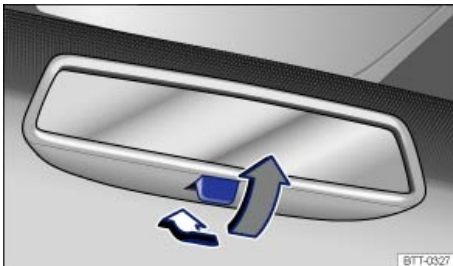

Fig. 88 Manually adjustable inside mirror.
- To adjust to non-glare visibility, move the lever so that it points backward ⇒ fig. 88.